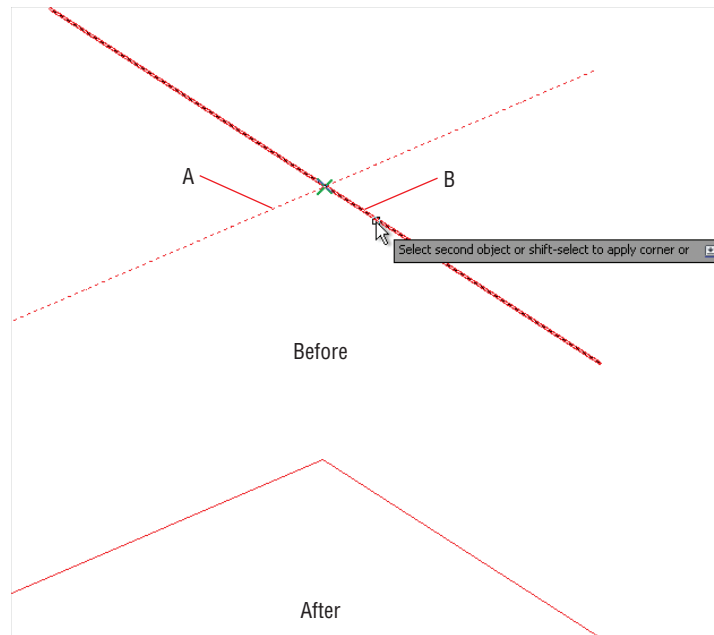

FIGURE 2.30 Filletting lines with a zero radius joins them together precisely.
3. Click the points A and B, as shown in Figure 2.30. The lines are joined at their endpoints, and the remaining portions of the lines beyond their intersection point are trimmed away.